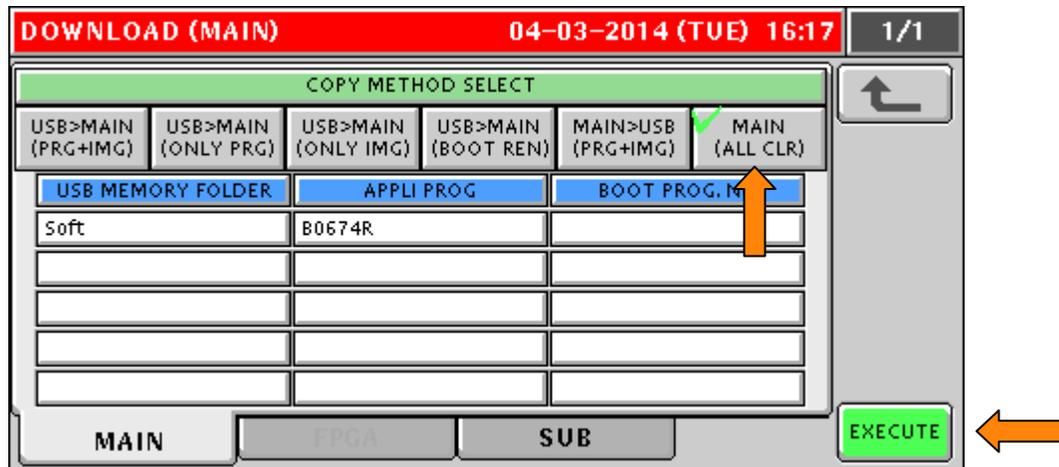

Figure 1.5. Select and Execute **MAIN (ALL CLEAR)**
11. At the DOWNLOAD (MAIN) screen press the **MAIN (ALL CLR)** button and press **EXECUTE**. See Figure 1.5.